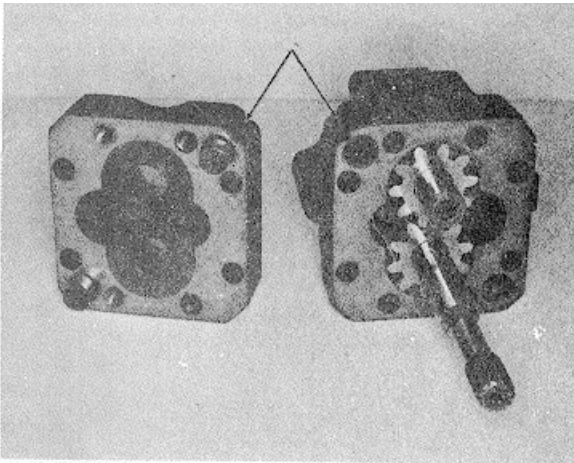

Fig. 5-33, F524. Locating notches for right hand pump.
2. Position new gasket and install body to cover. Align locating notches together. Fig. 5-33.